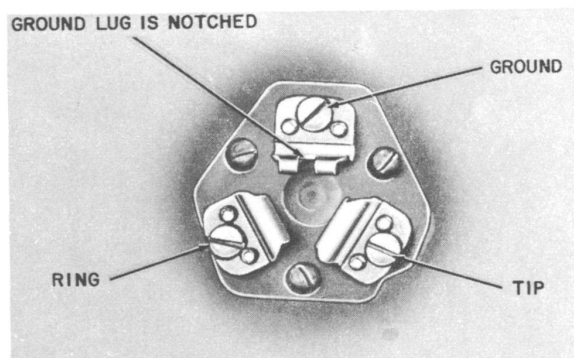

Fig. 9 — Connections for KS-8420 and 8421 Jacks
- (1) Arrange for a 2-11/16 inch hole at location selected for jack installation.
- (2) Temporarily insert jack in hole and mark fastener holes.
- (3) Remove jack and drill fastener holes.
- (4) Connect wire as shown in Fig. 9.
- (5) Secure jack to mounting surface with four No. 8 brass wood screws or No. 8 RH brass machine screws.
- (1) Arrange drop wire or bridle wire and conduit at location selected for installation.
- (2) Secure the jack housing to the mounting surface using suitable fasteners.
- (3) Connect wire to terminal block as shown in Fig. 9.
(4) Mount terminal block to jack housing.
(5) Install cover on housing.
- 4.01 Figure 9 shows connections for KS-8420 and KS-8421 jacks.